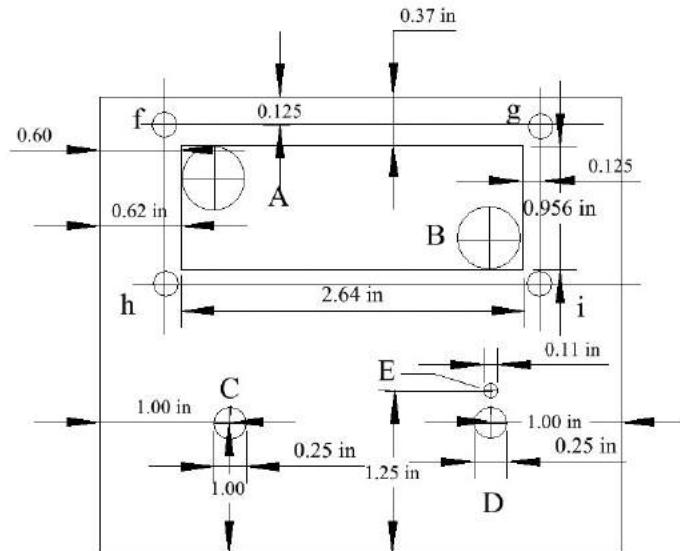

Figure 3-9: Sloping face of the Regulated Power Supply enclosure
The templates for this project are shown in Figures 3-9 and 3-10, and they can be downloaded from https://www.nostarch.com/arduino_playground/.
1. Center punch and drill holes for the potentiometer, on-off switch (1/4 inches), and power indicator LED. See Figure 3-9 for the front panel dimensions.
2. Center punch and drill the hole for the power input jack in the rear of the panel (see Figure 3-9).
4. Carefully measure and mark the cut out for the LCD display, as shown in Figure 3-9. Center punch and drill 1/2-inch holes in the corners of the LCD screen area to help initiate saw cutting. You can eyeball this based on the diagram in Figure 3-9 or download a PDF file of the template. Either trace the image onto your enclosure with carbon paper or simply mark the corners with a center punch and connect the punch marks.